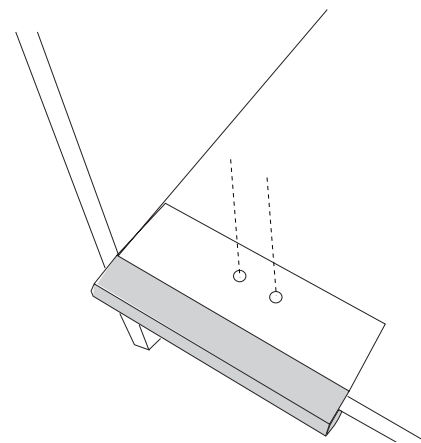

Fig. 1
1. In one hand, hold the Door/Hamper Template (#05-90051) with the wooden handle flush against the front edge of the bottom, fixed shelf (and against the left or right partition). With your free hand, drill your hinge holes, using the Self Center Drill Bit, through the Lucite template's holes. (See Fig. 1.)